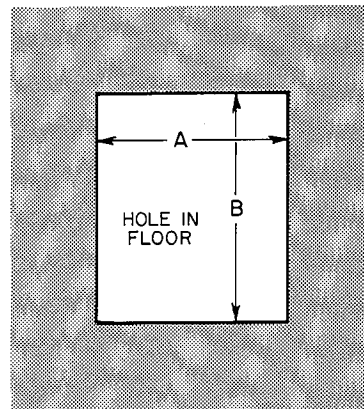

Figure 4—Floor Opening for Concrete Slab A73382
- Construct hole in floor per dimensions in Figure 4 and Table III.